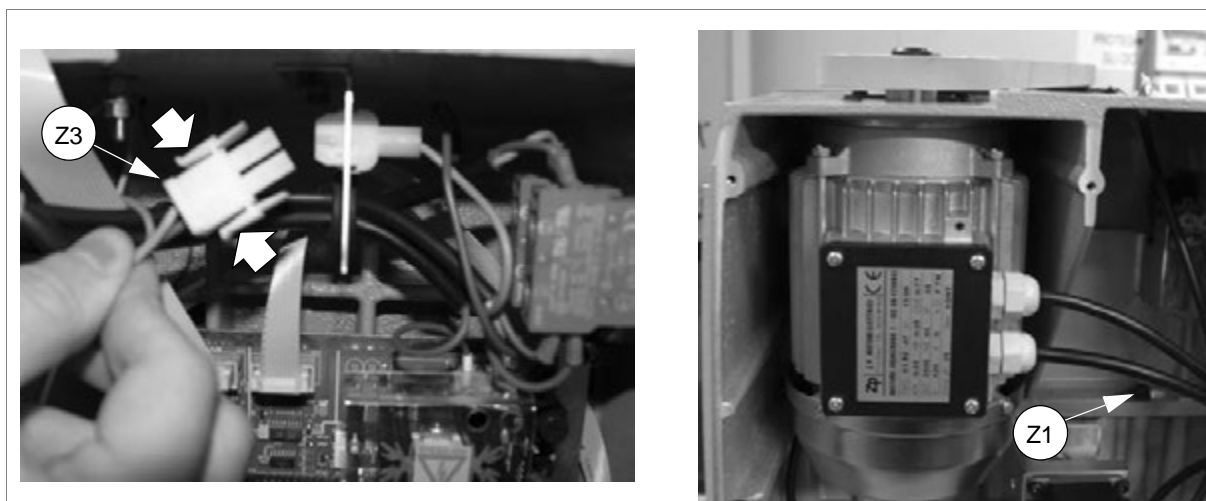

Fig. 88
- g) press on the connector grips (Z3) to remove them (fig. 88).